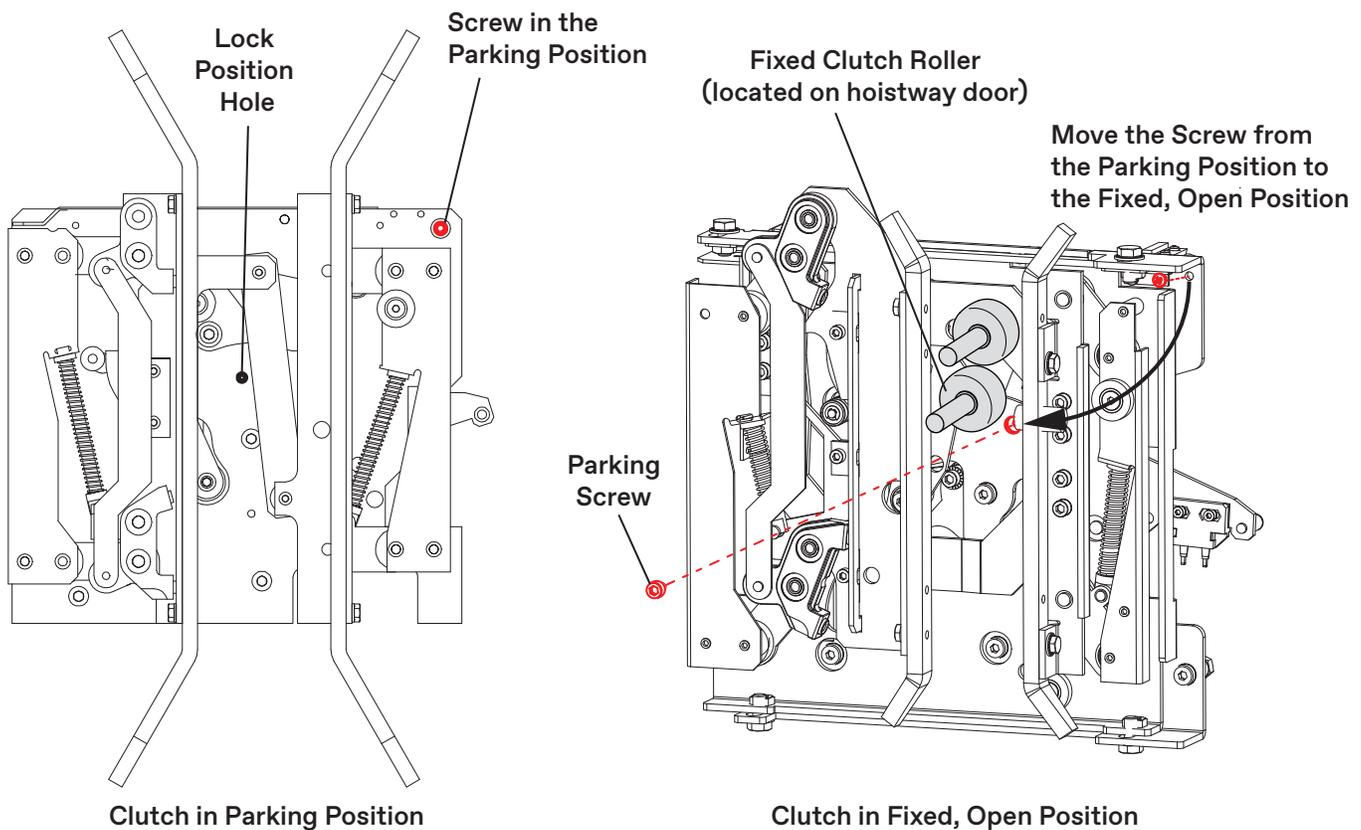

Figure 20 - Block LD-16 Clutch Open
1. Remove the screw from the parking position on the clutch. See Figure 20.